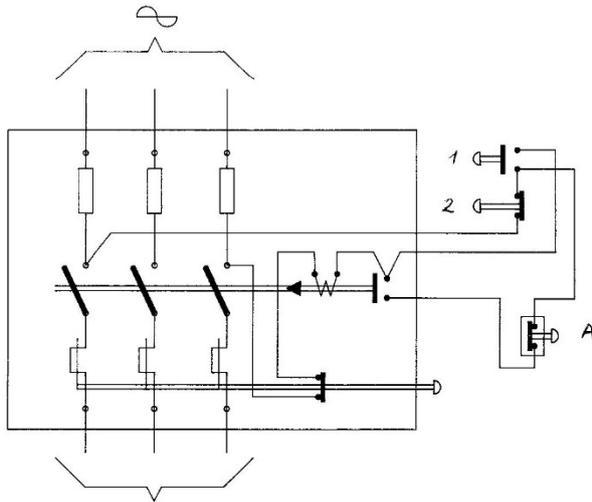

Fig. 1
Figure 1 shows the electric diagram commonly used, with the proximity sensor or microswitch (A) connected in parallel to the START push-button (1) and in series to the STOP push-button (2). This arrangement permits to start the unit after the overload condition is removed even if the torque limiter is actuating the proximity sensor or microswitch in the open position.